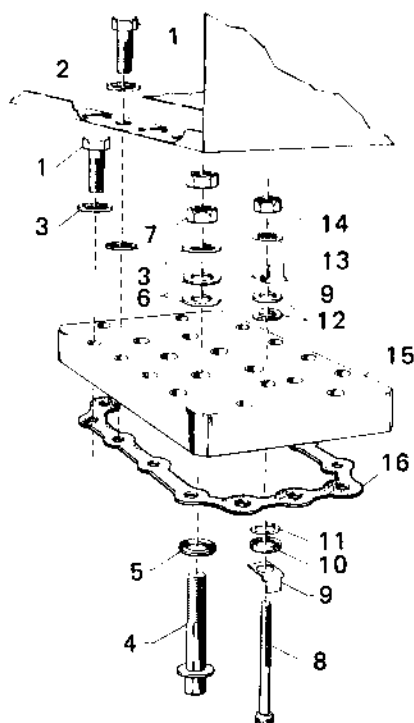

FIG. 21 — MOTOR TERMINAL PLATE DETAIL
15. Re-install the terminal bolts and overload protectors. Be sure the terminal bolts are re-installed in the correct hole. (1, 2, 3, 7, 8 or 9) Refer to Fig. 21 to be certain all gaskets, washers, seals, etc. are installed properly.